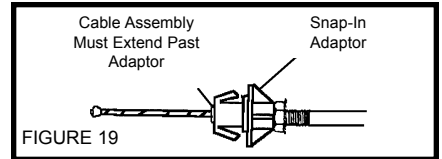

FIGURE 19
- b. After the threads have been formed, screw the **SNAP-IN ADAPTOR** onto the **CABLE ASSEMBLY**. **Figure 19**